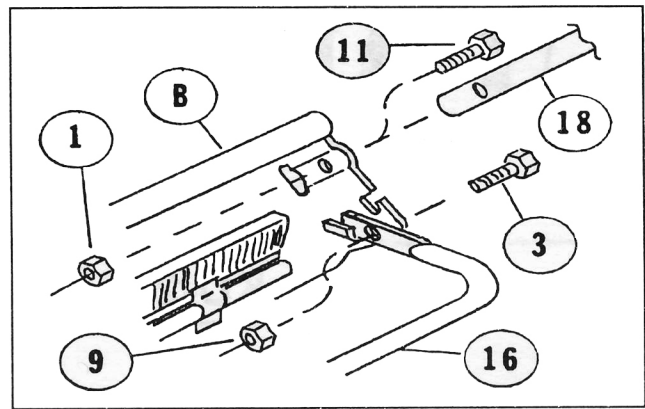

Figure 2
2. Install stand tube (16) inside chassis assembly (B) using 5/16 x 1/2 hex bolt (3) and 5/16 lock nut (9). See Fig. 2. Be sure flat ends fit in notch as shown.
3. Install side handles (18) inside chassis assembly (B) socket using 1/4 x 1 hex bolt (11) and 1/4 lock nut (1). See Figs. 2 and 3.